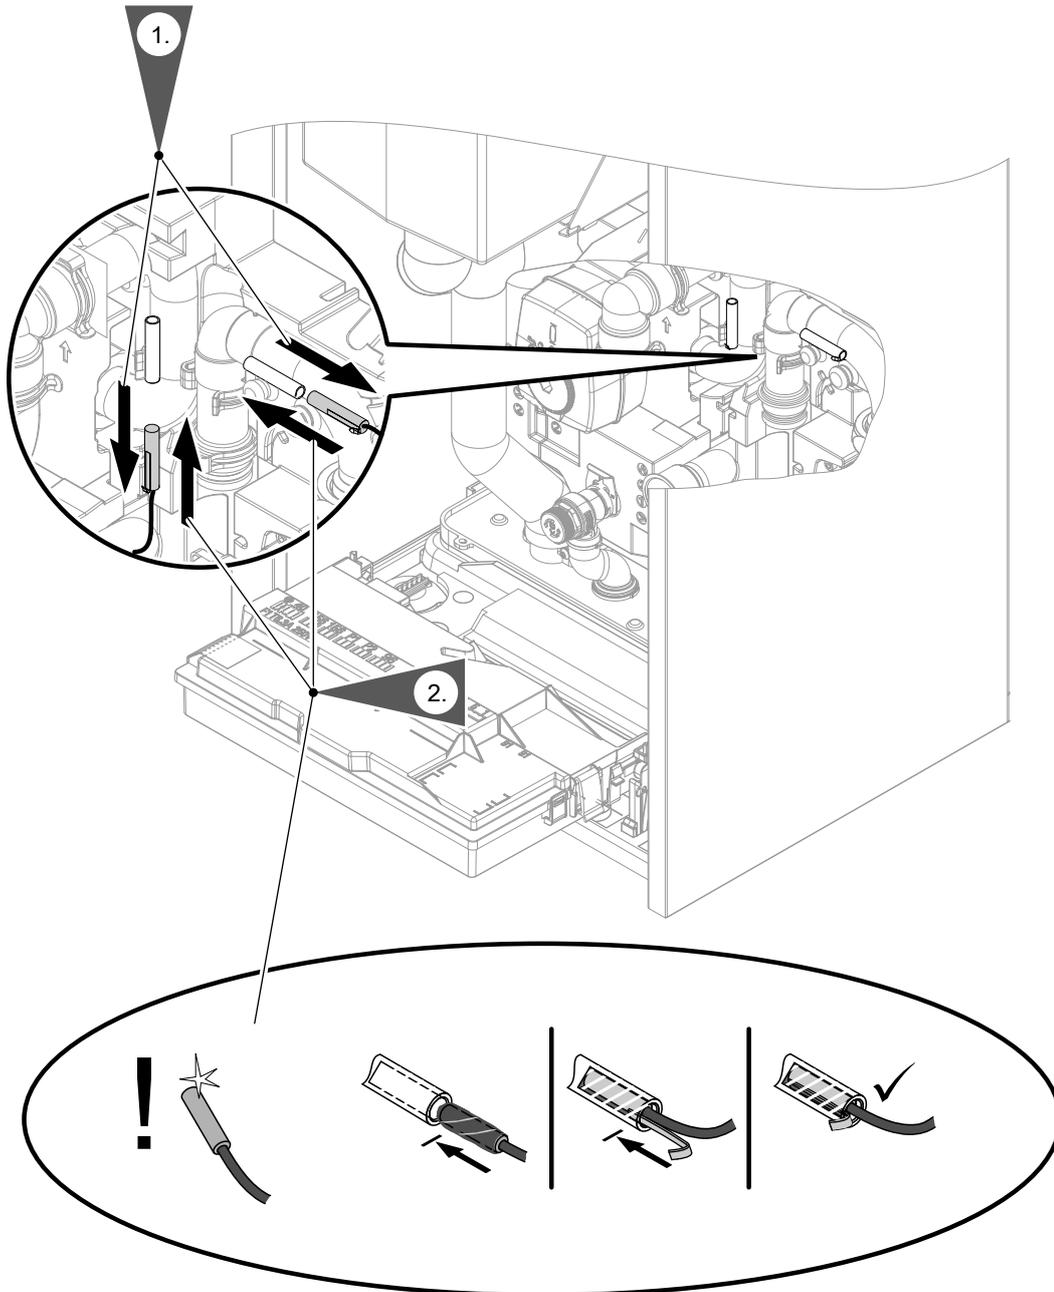

Fig. 80
- Secondary circuit temperature sensors: See Fig. 80.